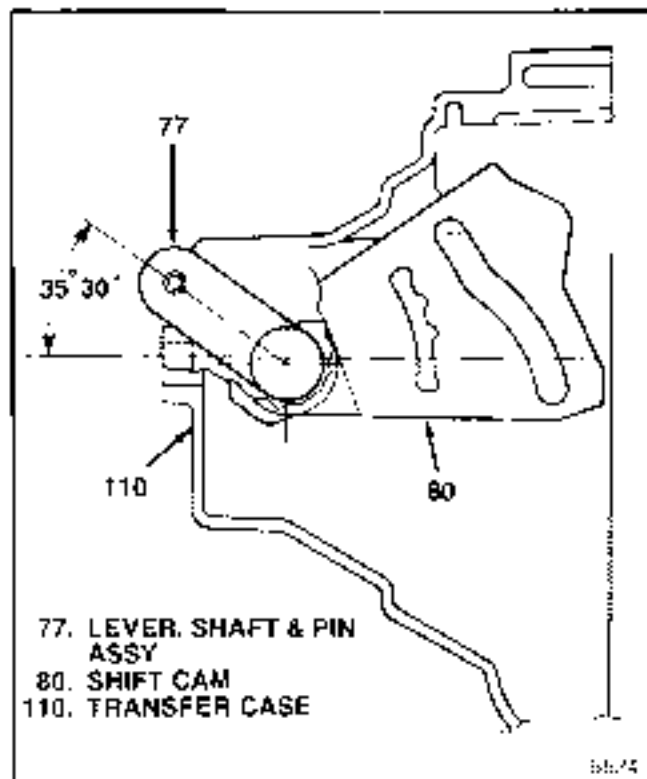

Figure 5-11. Cam and Lever Positions
a. Lubricate shaft and install lever, shaft and pin assembly (77). Start splined end of shaft into transfer case (110) until end is flush with inside of case.
b. Start setscrew (75) into shift cam (80). Insert shift cam into transfer case. Position both cam and lever shaft and pin assembly (77) as shown in figure 5-11, align cam and shaft splines and install lever shaft and pin assembly fully into cam.
c. Install clip ring (76) in groove near inside end of shaft on lever shaft and pin assembly (77) to retain shift cam (80).
d. Tighten setscrew (75) to 5-7 lb-ft (7.0-9.5 Nm) through hole in transfer case (110) for 4WD indicator switch (74).
e. Install assist bushing (79) on end of assist spring (78) and install in groove in shift cam (80) closest to lever shaft and pin assembly (77). Install other end of spring through case bracket notch and into hole in transfer case (110).
f. Install 4WD indicator switch (74) and torque to 25-35 lb-ft (34-47 Nm).